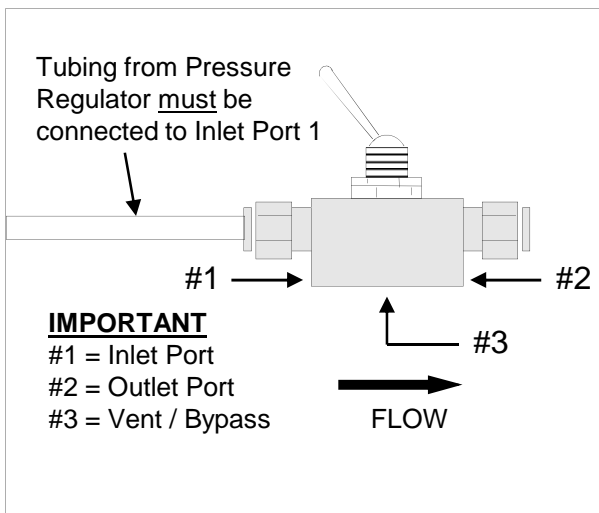

Figure 4
7.1 Locate numbers #1, #2, and #3 stamped on body of Bypass Switch (#1 and #2 are located under 8mm push-fit couplings and #3 is on bottom of valve). #1 is Inlet port. #2 is Outlet port. #3 port is "Bypass" or vent port. **See Fig. 4.**